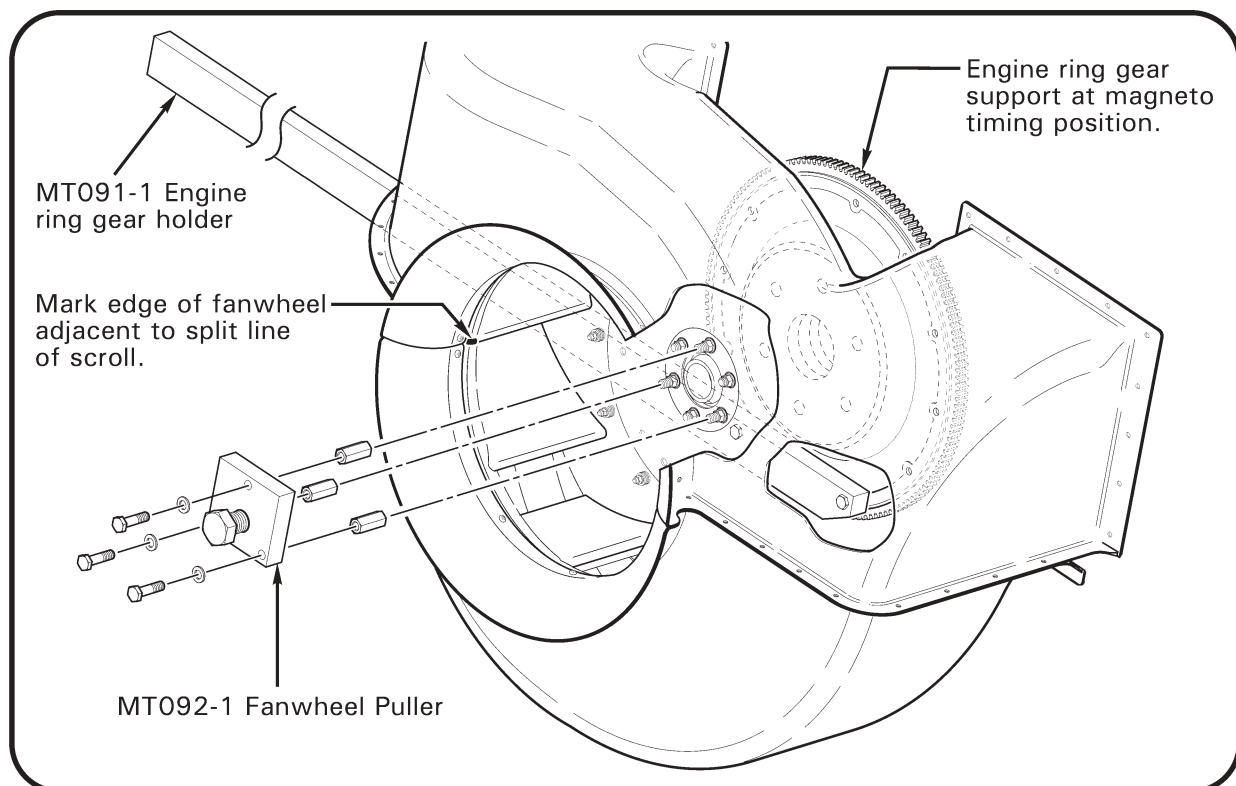

FIGURE 6-3B PULLING FANWHEEL
If same fanwheel is to be reinstalled then orient starter ring gear support to magneto timing position and mark fanwheel at split line of scroll; this will minimize need for new balance weights. See Figure 6-3B.
5. Refer to Figure 6-3B. Install MT092-3 spacers directly on each of (3) long B660-1 bolts (if installed; nuts remain in place). Alternately, remove scroll lower half then replace every other nut & washer (3 each) with MT092-3 spacers.